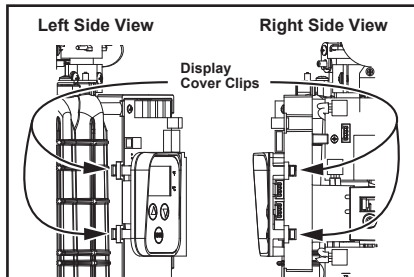

Figure 49 - Display Cover Mounting Tabs.
- 4 Reinstall the display cover. See Figure 49